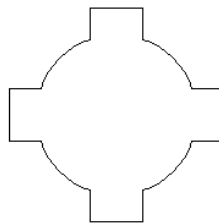

Fig. 1.7.19
**Or:** Retain the none-overlapping part of the objects, see Fig.1.7.19.